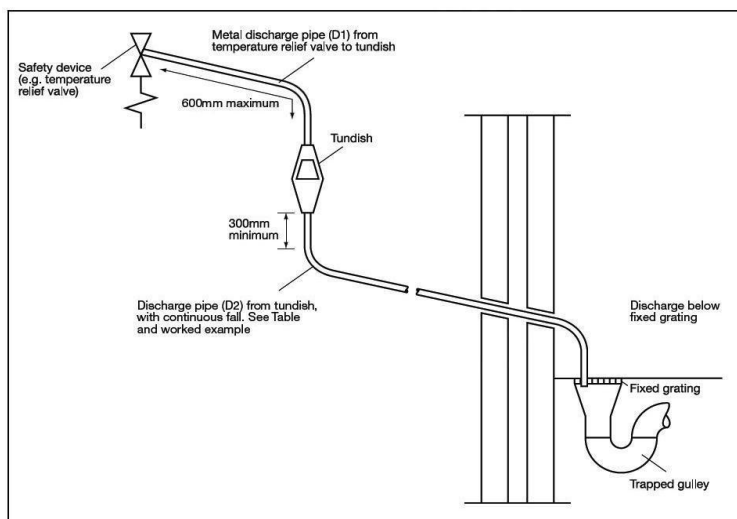

Figure 3: Typical discharge pipe arrangement
The discharge pipe D2 should be at least one pipe size larger than the nominal outlet size of the safety device unless its total equivalent hydraulic resistance exceeds that of a straight pipe 9m long, i.e. for discharge pipes between 9m and 18m the equivalent resistance length should be at least two sizes larger than the nominal outlet size of the safety device; between 18 and 27m at least 3 sizes larger, and so on; bends must be taken into account in calculating the flow resistance. See Figure 3, Table 3 and the worked example.
- The tundish should be vertical, located in the same space as the unvented hot water storage system and be fitted as close as possible to, and lower than, the safety device, with no more than 600mm of pipe between the valve outlet and the tundish (see Figure 3).